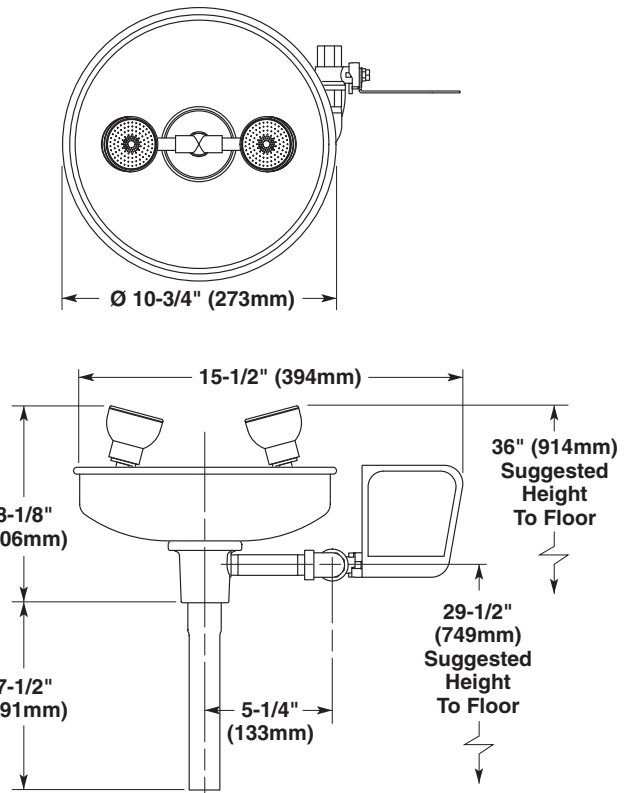

Figure 1
1. Connect the water supply piping (supplied by installer) to the 1/2" IPS inlet on the eyewash (see Figure 1).